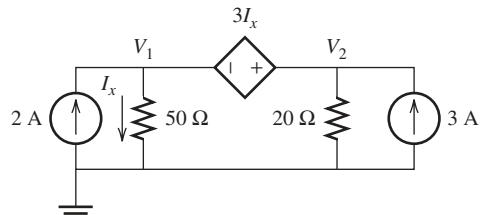

FIGURE P3.50 Circuit for Problem 3.50.
- 3.50 (H)** Find V_1 and V_2 in Figure P3.50: